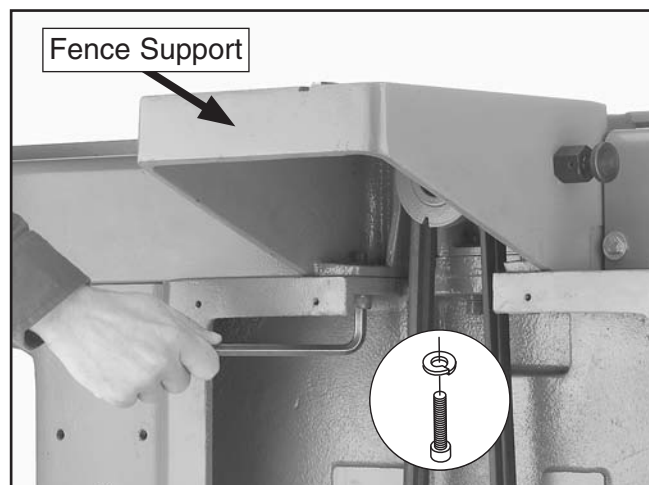

Figure 18. Installing the fence support.
2. Remove the cap screws and lock washers that are pre-installed on the bottom of the fence support, then, with assistance, secure the support to the jointer with these cap screws and lock washers, as shown in **Figure 18**.